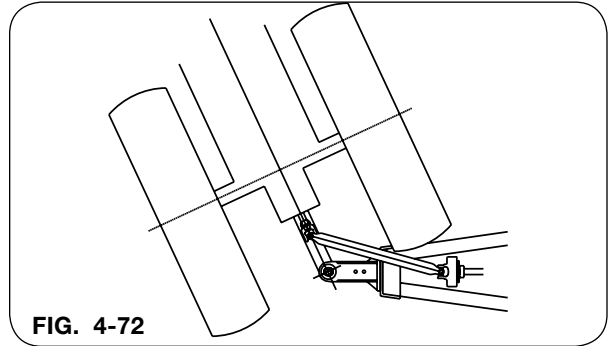

FIG. 4-72
6. Position the tractor to obtain the tightest turning angle, relative to the cart (Fig. 4-72).